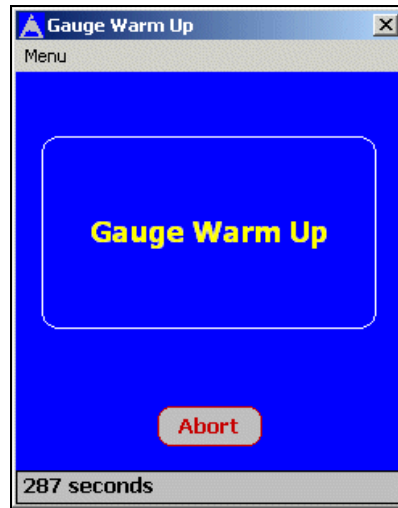

Figure 18. Gauge Warm Up Screen
- A.6 Press the **<Done>** button to continue. The gauge enters a 5-minute warmup period and the PDA displays the **Gauge Warm Up** display shown in Figure 18. Press the **<Abort>** button.